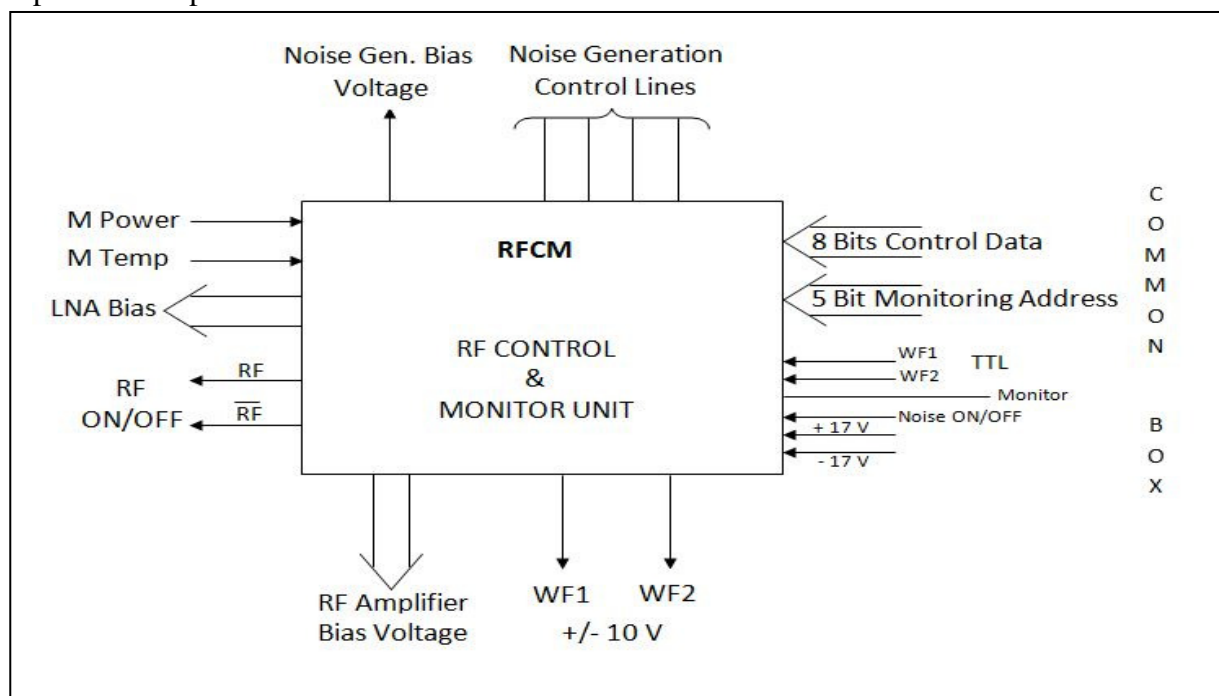
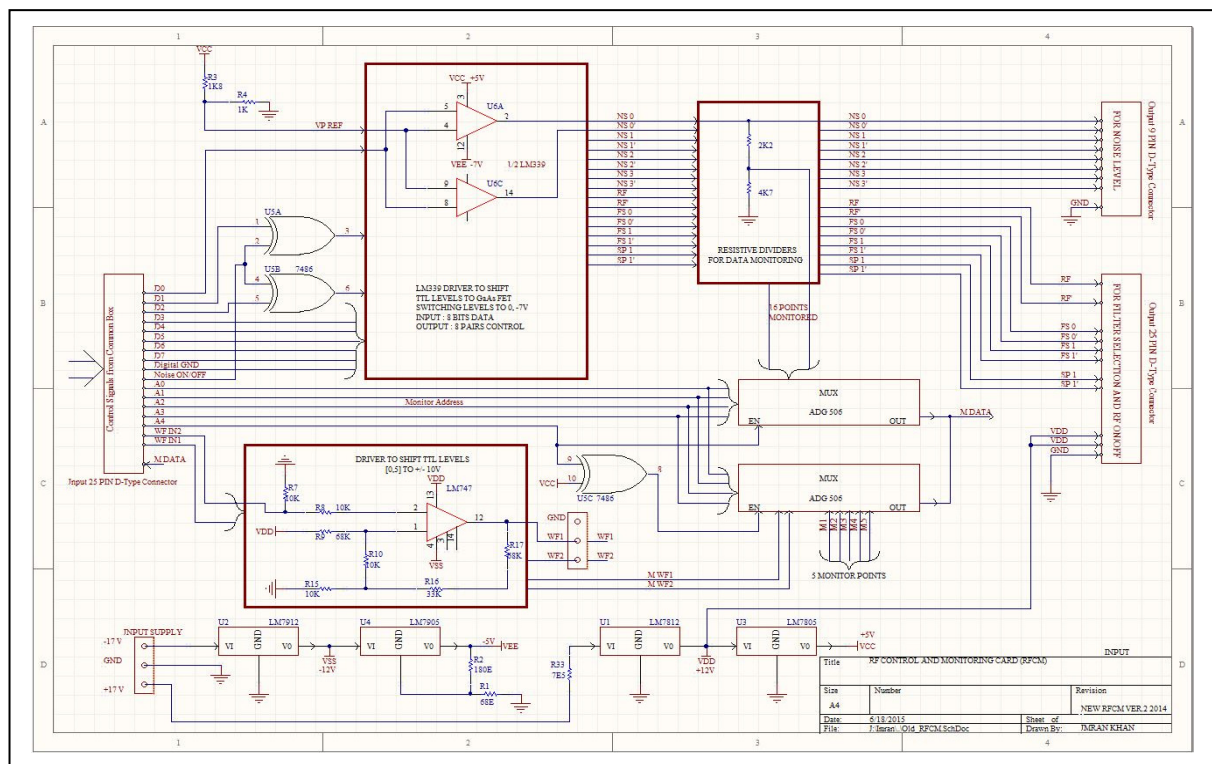

Fig.1 Inputs and Outputs of the RFCM cards
Fig.2 (a) Block Diagram of Old RFCM card (Existing)
1. Figure 1. Inputs and Outputs of the RFCM card.....	Page 7
RFCM card receives 8 bits of control data from the MCM-05 and generates 0V & -7V complimentary analog signals from these TTL inputs for driving the GaAs FET switches used for noise level settings, RF ON/OFF and filter select. Currently, the filter select option is utilized only for L-Band, but now in up-gradation of GMRT bands this facility of filter selection will be available in each band. The noise ON/OFF, Walsh function WF1 and WF2 are received through the MCM Interface card. The noise ON/OFF line is used as the control signal for the bits corresponding to the middle two switches (S2 & S3) in the noise generator. This is achieved through a combination of Ex-Or gates. The Walsh function data are level shifted to +/- 10 V for driving the mixer in the post amplifier. This New RFCM card is also incorporated with the monitoring facility. Eight monitoring points are available on the MUX IC. These monitoring points are used for monitoring the power and temperature of the each of the front-end boxes. Fig.1 shows various inputs and outputs on the RFCM card.
Fig.2 (a & b) shows the Schematic diagram of an Old RFCM card (Existing) and New RFCM card respectively. The RFCM card has a 25 pin input D-Type connector. The input for the RFCM card is received from the common box. As shown in the fig. 1 RFCM card receives the 8 bit data lines (D0-D7), 5 bits address lines (A0-A4), digital ground, noise ON/OFF, and Walsh switching bits (WF1 & WF2). The 8 bits data lines include 4 bits of noise selection (NS0-NS3), 2 bits of filter selection (FS0-FS1), one spare bit along with the RF ON/OFF bit. All these data bits are TTL inputs (0V & +5V) that are converted into -7V & 0V complementary analog signals with the help of a comparator IC (LM339) for controlling the GaAs FET switches. The Walsh function bits are level shifted from 0V/5V to +/- 10V using an op-amp (OP-37). The RFCM card also has a monitoring facility and it can monitor 8 external voltages (M1-M8) along with the other internal voltages. The two 16:1 multiplexer IC's (ADG506A) are used for this purpose and 5 bit address lines are used to select only one input at a time. Along with all these functionalities RFCM cards also provide power supply to the RF components that are present in the front-end box. For this it has four voltage regulators which convert +/- 17V into +/- 12V and +/- 5V.
The New RFCM card along with the following function explained earlier has additional 8 point monitoring facility along with the 3 TTL outputs (J11) for the filter selection. These two facilities have brought on the relemate connectors as shown in the schematic diagram of New RFCM card fig.2 (b).